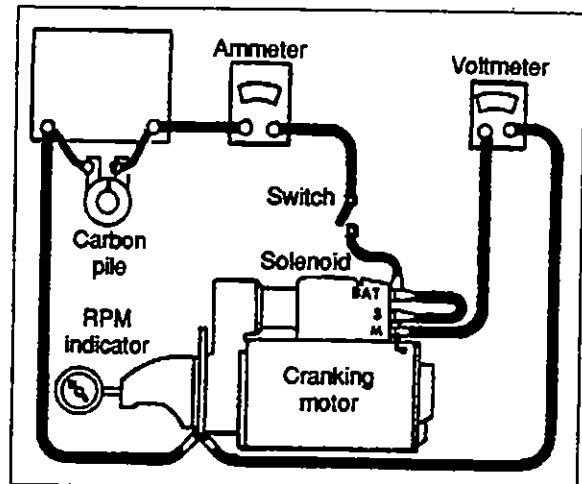

Figure 38
Before disassembly of the starting motor, the following check of starting motor operation should be done to determine any condition which may require special attention during overhaul. Make test connections to the starting motor as in figure 38.
Connect the starting motor in series with fully charged batteries to give 24 volts, an ammeter capable of reading several hundred amperes, and a variable resistance. Also connect a voltmeter as illustrated in figure 38 from the solenoid motor (M) terminal to the starter frame. An rpm indicator is necessary to measure armature speed. Proper voltage can be obtained by varying the resistance unit.